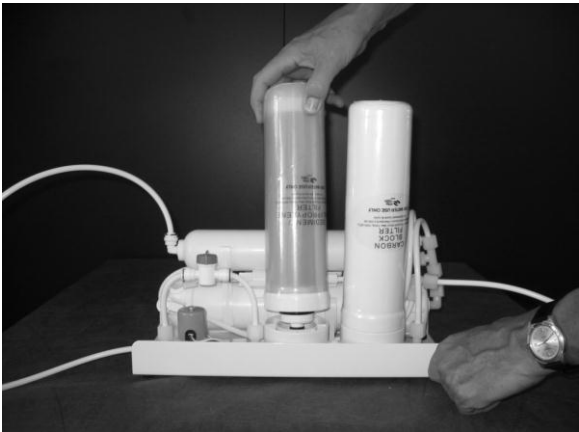

Fig. 1
3. Position **PURA PLUS™** on a flat surface, unscrew and remove the sediment pre-filter and the carbon block filter (Fig. 1 & 2). Mop up the small amount of water that comes out with paper or rags.